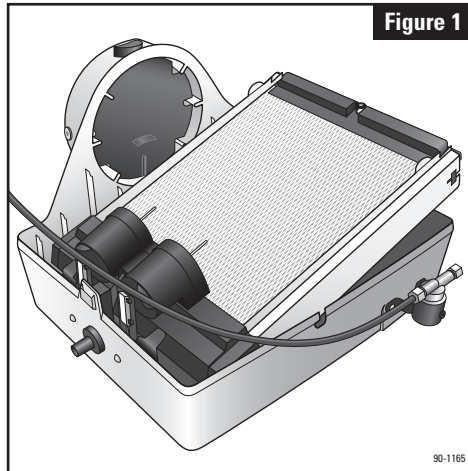
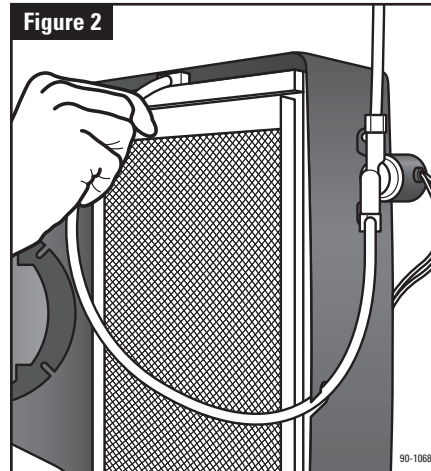

Figure 1
Figure 2
**1.** Press top & bottom tabs to remove cover (1). Pull feed tube (3) out of distribution tray (4). Remove Water Panel® Evaporator assembly. See **Figure 1**.
**2.** Humidifier is supplied with bypass duct connection on left. For right side bypass, swap location of water level sensor assembly (9) and cap (10).
**4.** Place humidifier base (2) in opening and secure with 6 screws in openings provided.
**6.** Insert Water Panel Evaporator assembly into base. Make sure bottom of scale control insert (6) is seated in water level sensor assembly (9). Snap top of evaporator assembly into base. Insert feed tube into distribution tray. See **Figure 2**. Make sure float cover (14) is snapped into place and that floats (13) move freely up and down. Rotate nameplate (11) if necessary, so it is right side up. Place point bypass damper handle (8) to "WINTER" (open) for heating season and "SUMMER" for cooling season.